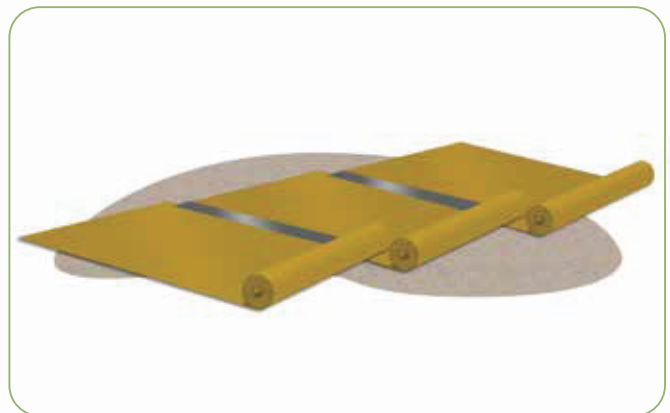

Figure 1. Radon Block™ Overlapping Roll-out Method
- 1.2** Unroll Radon Block™ running the longest dimension parallel with the direction of the pour and pull open all folds to full width (figure 1).